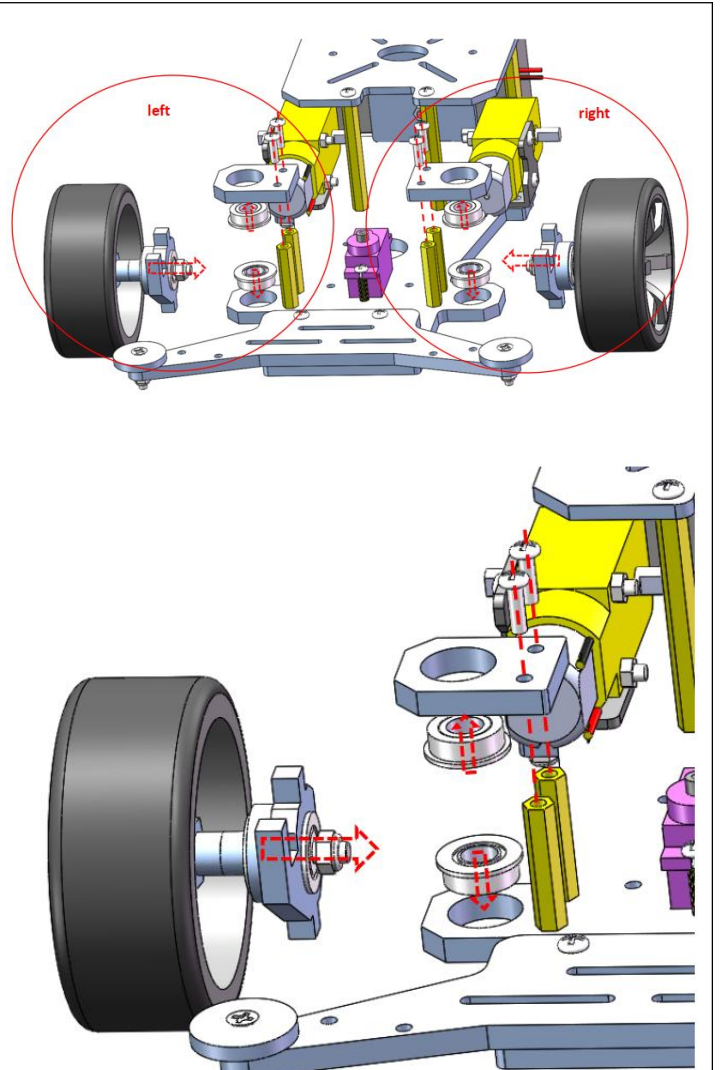

Figure 3
4. Installation of the left front wheel to the acrylic chassis frame (Figure 3):
2. Use 4 pcs M2.5*8mm round head screws to fix 4 pcs M2.5*20mm double through copper columns on the acrylic support plate (pay special attention to the installation direction of the double through copper columns on the acrylic support plate, refer to Figure 3 and Figure 4)